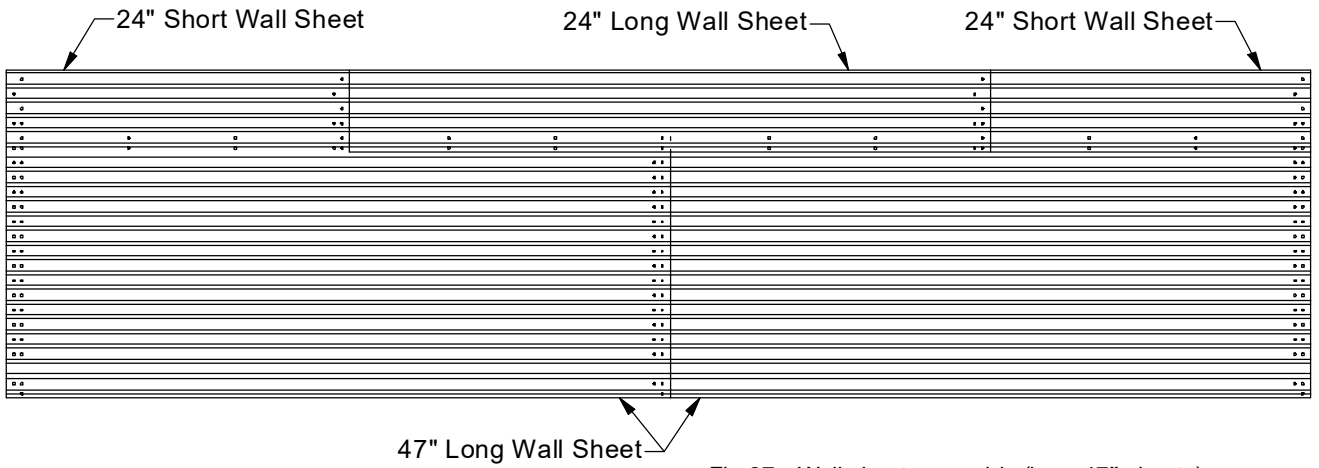

Fig 27 - Wall sheet assembly (long 47" sheets)
- If the bottom 47" tier of the system only has long sheets, then start and end the top 24" tier with short wall sheets. See Figure 27